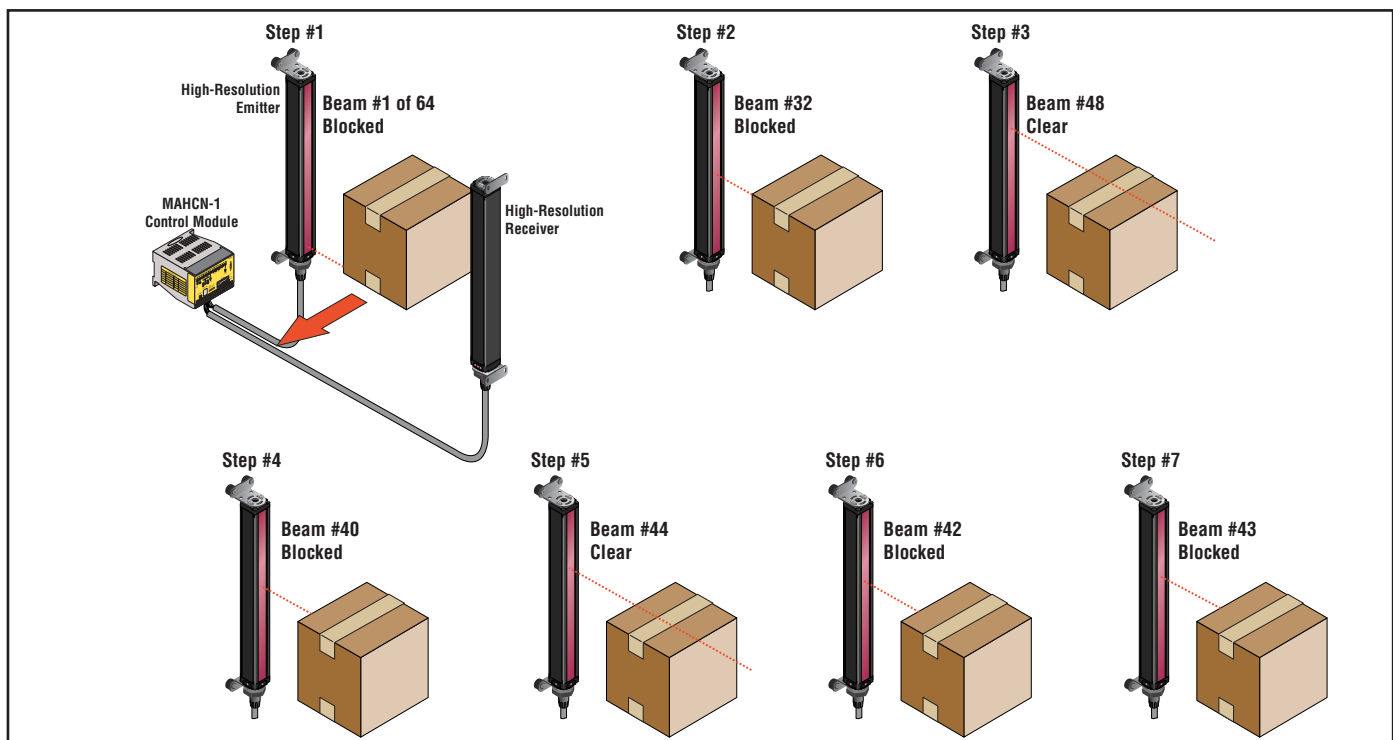

Figure 5-13. Finding an edge using a binary search
3. If the middle beam is made (unblocked), the sensor checks the bottom quarter beam; if the middle beam is blocked, the sensor checks the top quarter beam. (This is called a binary search; see Figure 5-13.)